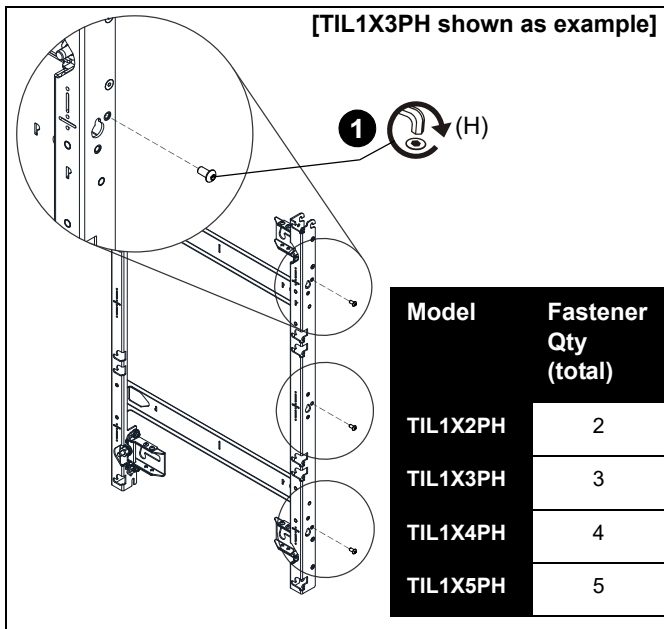

Figure 12
- Partially install one 1/4-20 x 1/2" button head screw (H) into fastener hole next to tear drop slot at **each** mid-screen area on the right side of mount. (See Figure 12)
- Slide the left (B) and right adjustment washers (A) into place behind the partially installed lag screws.
- Slightly loosen the side connector screws prior to adjusting the mount height. (See Figure 12)
- Re-tighten connector screws. (See Figure 12)